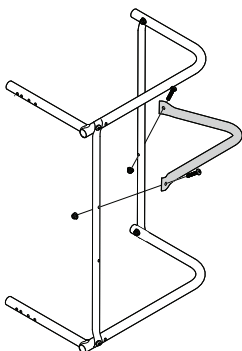

Figure 6
7. Attach bag vent mount tube to right frame assembly, using two pan head screws and two hex nuts as shown in Figure 6.